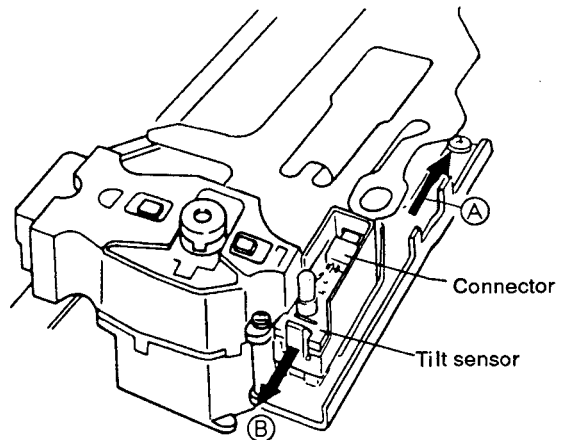

Fig. 7-9
**7.7 REMOVING THE TILT SENSOR (Fig. 7-9)**
- ① Remove the connector (arrow (A)) of the flexible cable and release the claw (arrow (B)) to remove the tilt sensor.